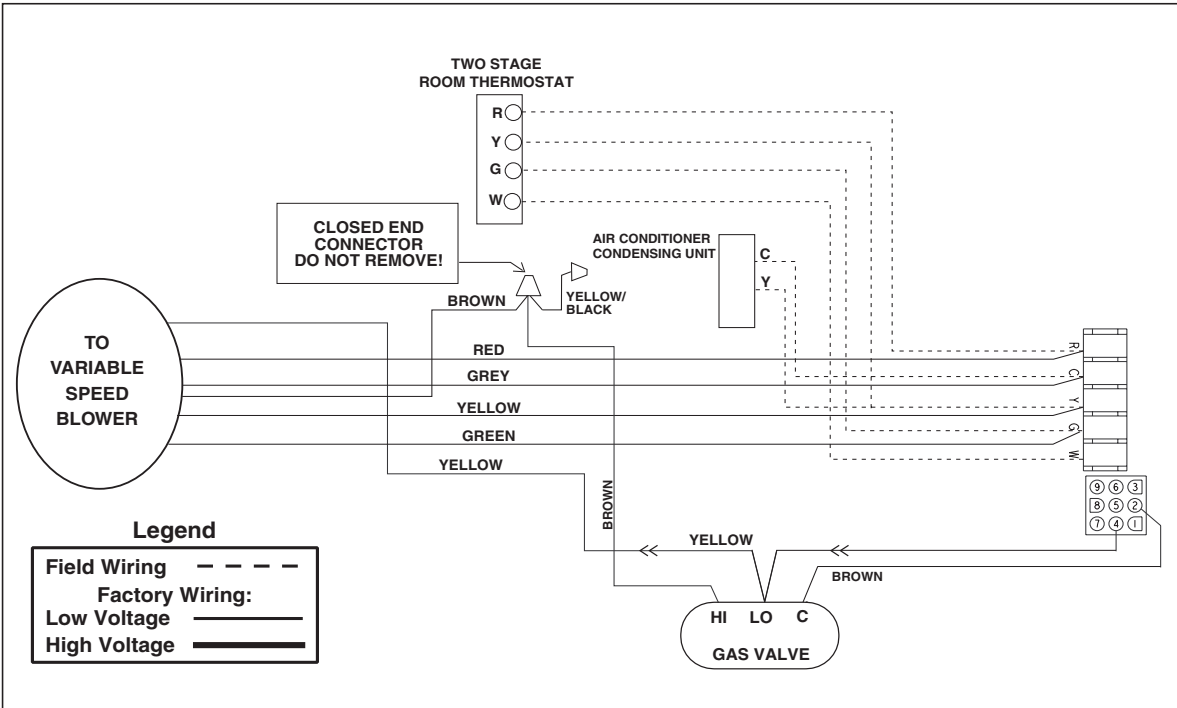

Figure 22. Low Fire Only Configuration
3. *Low fire only configuration* – For this installation, the high terminal is disconnected (See Figure 22). This defeats the staging feature and the furnace operates on low fire only. The furnace will run at reduced firing rate and the variable speed blower will operate at a lower speed.